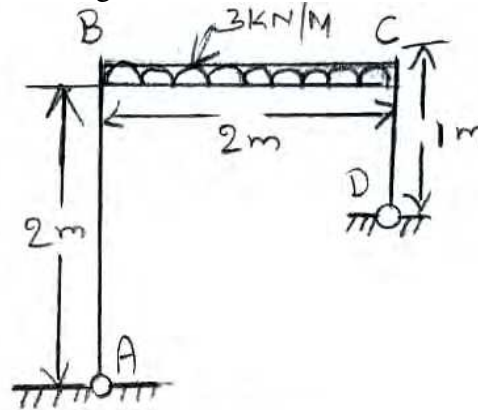

Figure 7
7. Using the method of minimum strain energy, analyze the portal frame shown in Figure 7. Plot the B.M diagram. EI is constant. [16]